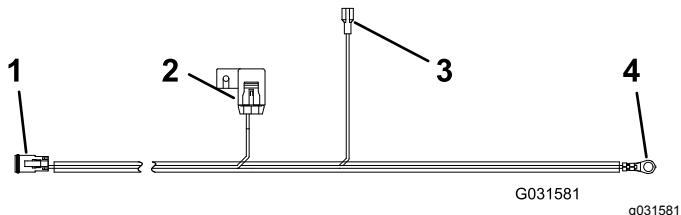

Figure 10
- To power the kit from the tractor fuse block, use the fuse-block harness Figure 10. Attach the fuse-block connector to the tractor fuse block and install a 15 A fuse.